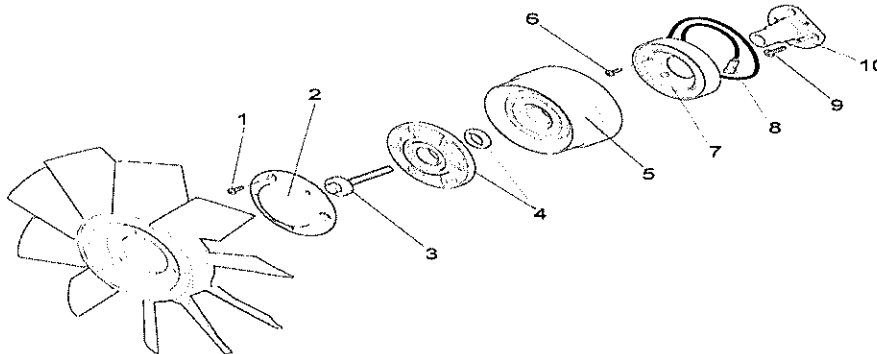

Fig 10 Electromagnetic fan clutch system – clutch components
23.4 Fit the brace tool (see Table 1, Item 3) onto the electromagnetic clutch end cap (Fig 10 (2)) using the M6 screws supplied. The screws should be finger tight and used without washers.